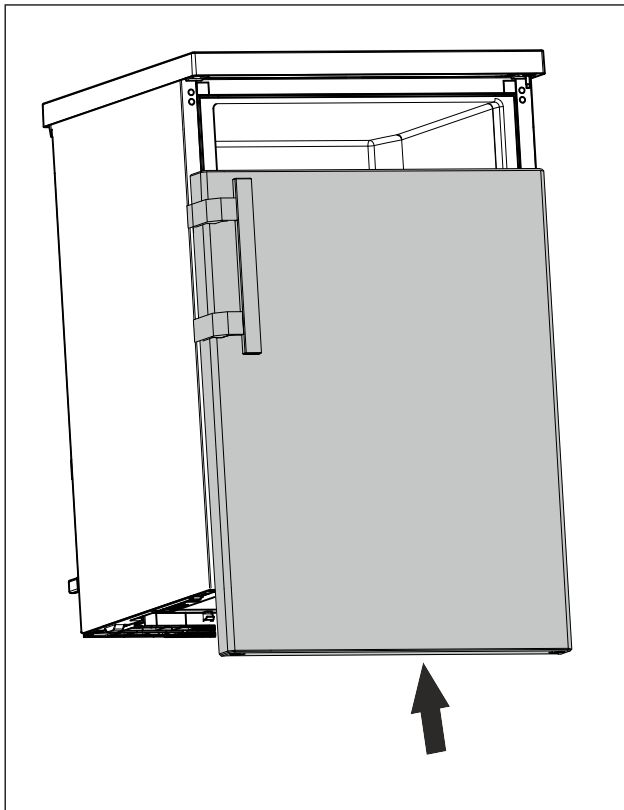

Fig. 15
- ▶ Slide the door onto the upper bolt in closed status. (see Fig. 15)